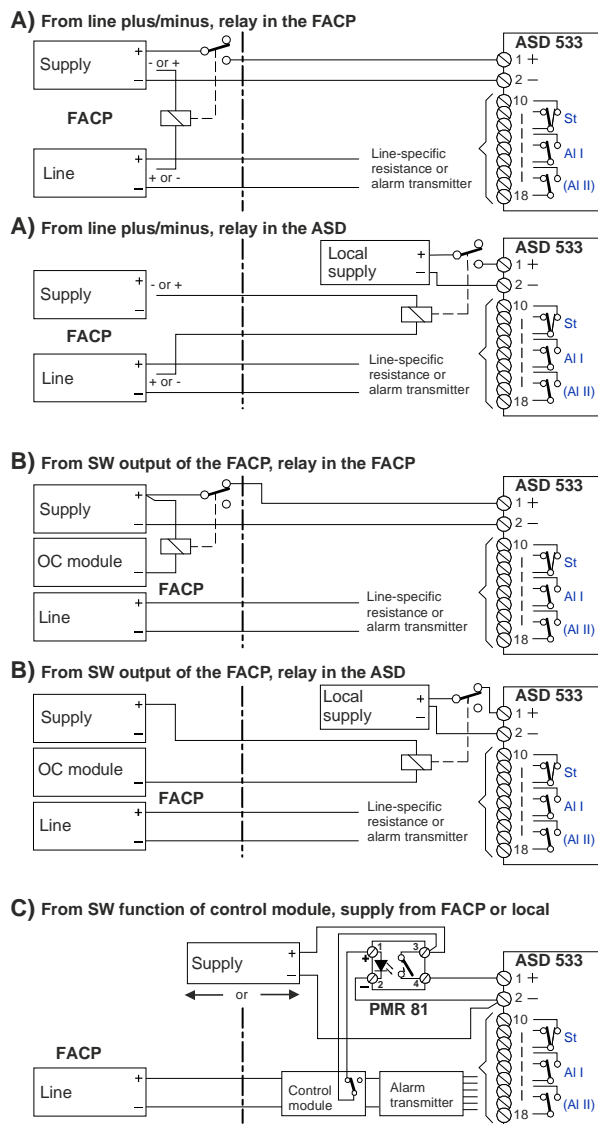

Fig. 34 Control via supply with relay
The auxiliary relay can be actuated in the following ways (see Fig. 34):
- The EMC protective elements at the input of the ASD electronics cause a brief current peak (5 A / 1 ms) when the supply voltage is applied. When using auxiliary relays with a maximum contact rating of 1 A, this may lead to the relay contact sticking. For this reason auxiliary relays with a contact rating of **more than 1 A** should be used **as a matter of principle** – e.g. semi-conductor relay PMR 81 (see Fig. 34 C)).